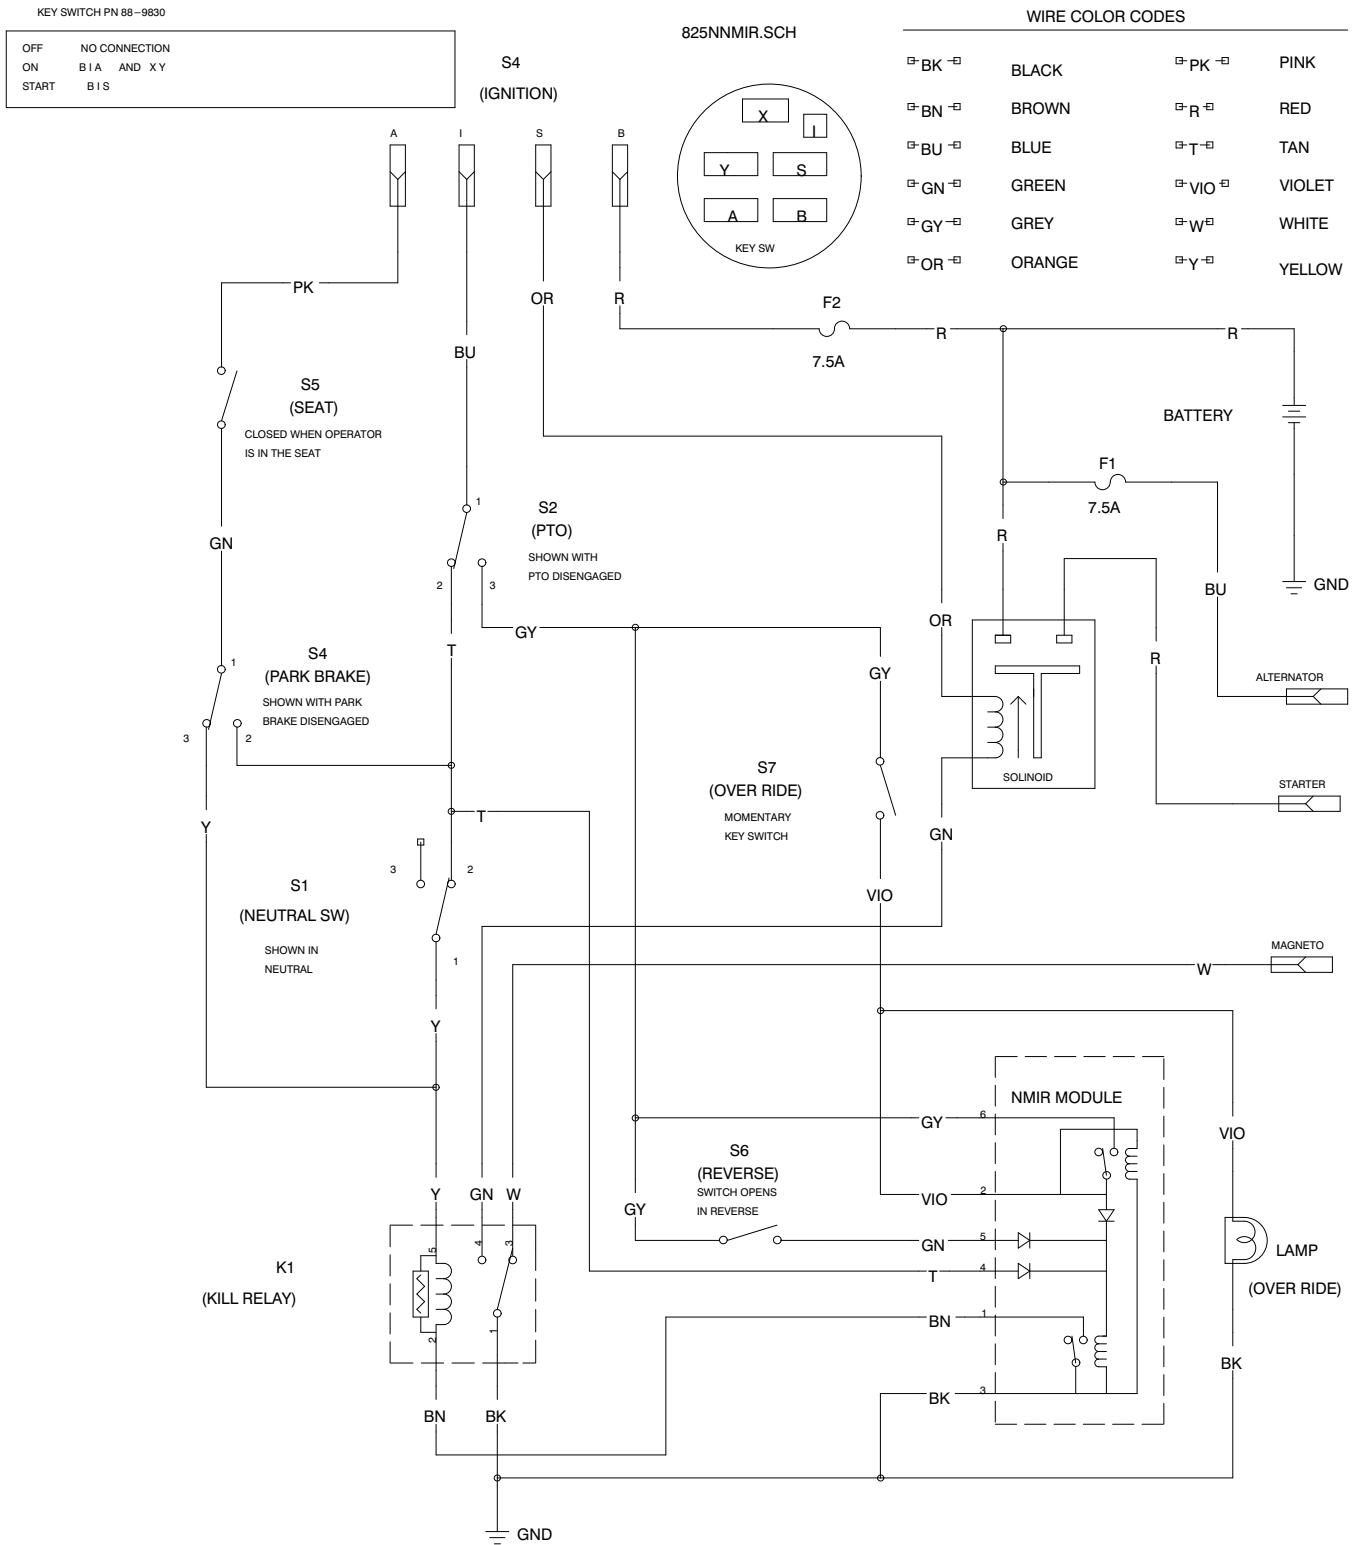

**Figure 24**
2. Check deflection of drive chain by lifting up and pressing down on chain with moderate pressure at mid span (Fig. 23). There should be 1/8 of an inch (3 mm) total deflection (Fig. 24). If deflection is not as specified, an adjustment is required—steps 3-13.
7. Loosen four flange nuts securing pillow blocks w/differential axle to the rider frame (Fig. 24).
8. Loosen rear jam nut on chain tensioner (Fig. 24).
11. Since axle must be parallel to rear of chassis, measure distance from center of pillow blocks to rear of chassis (Fig. 24). Difference between the two measurements must not exceed 1/8 inch. If difference exceeds 1/8 inch, axle is not parallel with chassis; therefore it must be readjusted.